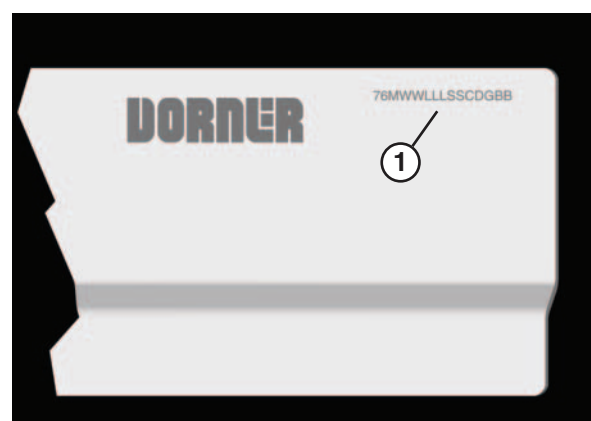

Figure 5
1. Locate the section number sequence etched on each section of frame (Figure 5, item 1).